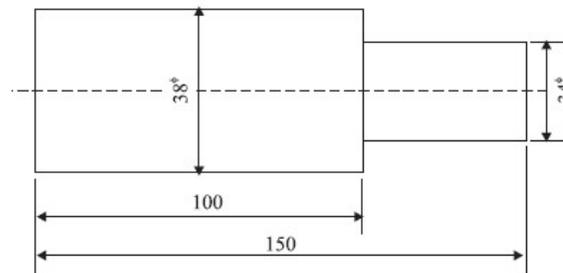

Fig. 4 (All Dimensions are in millimeter)
- (ii) A m.s. bar of 40 mm diameter is to be turned as shown in the Fig. 4